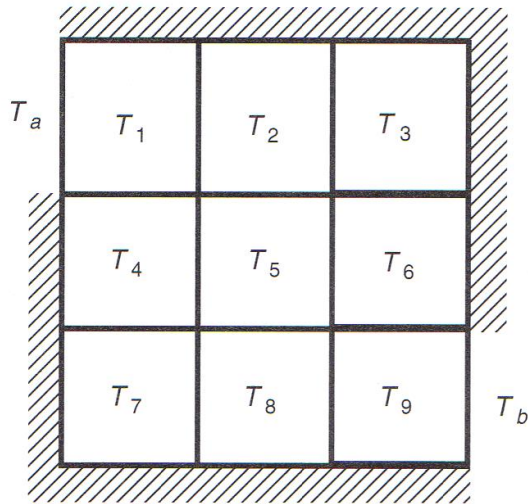

Figure P10
10. Use the averaging principle developed in Problem 9 to find the temperature distribution of the plate shown in Figure P10, using the 3×3 grid and the given values $T_a = 150^\circ\text{C}$ and $T_b = 20^\circ\text{C}$.